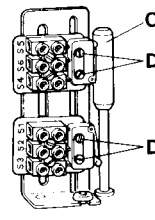

Fig.6
6. Loosen micro-switch fixing screws 'D' and slide assembly with terminal block to point at which vertical operating rod 'C' just operates switch (fig.6). Hold assembly in this position and re-tighten fixing screws.
7. Now energise actuator, or use manual operator, to run actuator in opposite direction to position at which second switch is required to operate, then repeat the setting procedure, as items 5 & 6.